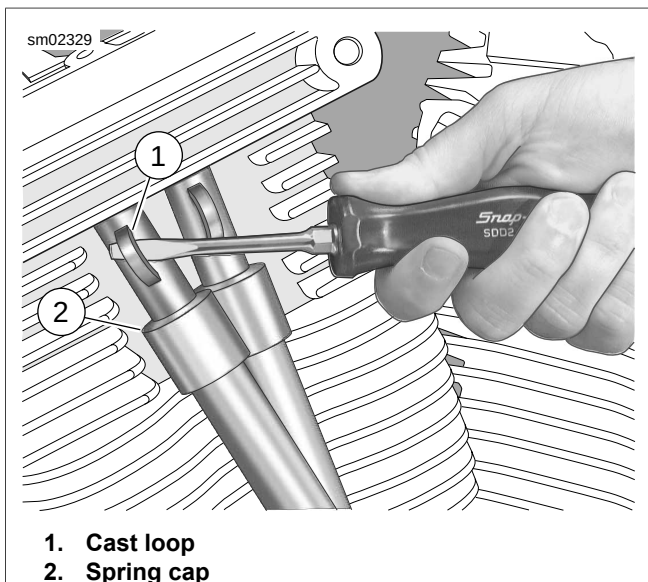

Figure 3-19. Removing Spring Cap Retainer
1. See Figure 3-19. Insert the blade of a small screwdriver into cast loop (1) of spring cap retainer. While pushing down on spring cap (2), rotate bottom of screwdriver toward outboard side to remove. Repeat step on second pushrod cover.